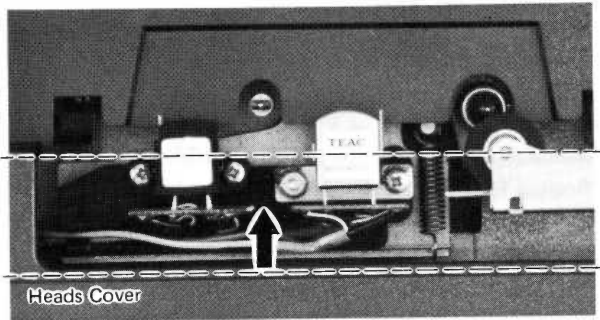

Fig. 4-3-3
- 3) Remove one record/playback head mounting screw and the azimuth adjusting screw. When removing the erase head, remove two screws securing the head. (Refer to Fig. 4-3-3)